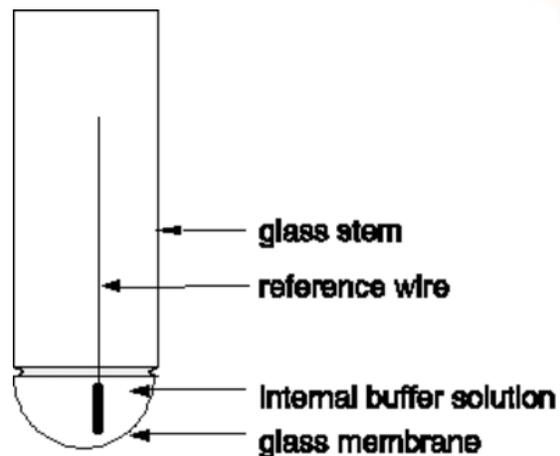

Figure 2: Glass pH Electrode
- 4) the glass stem. Figure 2.